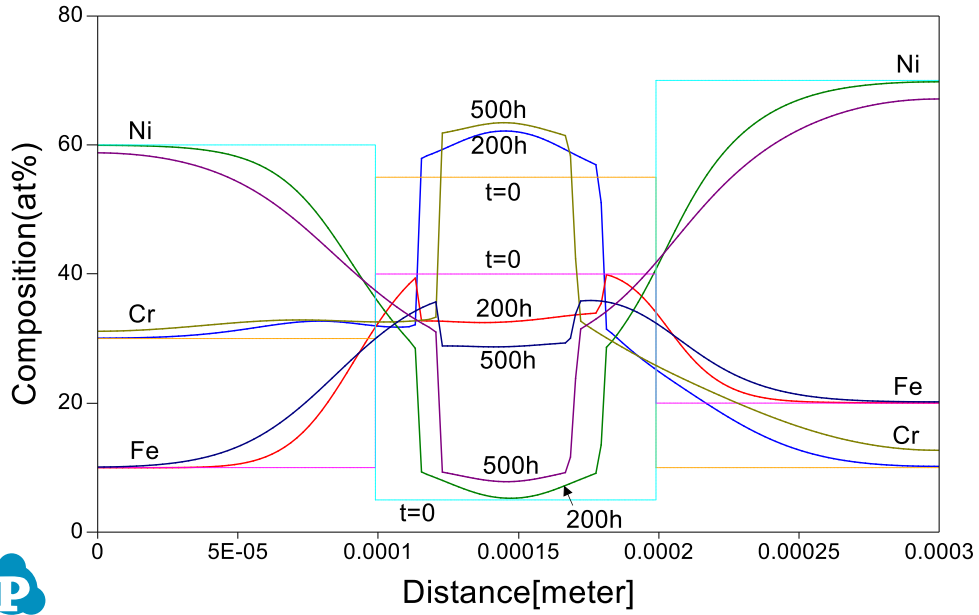

Figure 4.5.2: Calculated composition profiles for the diffusion sandwich at 1000°C for 200h and 500h
- The calculated plot is shown in Figure 4.5.2. Add text and change graph appearance following the procedure in Pandat User's Guide 2.3.1;